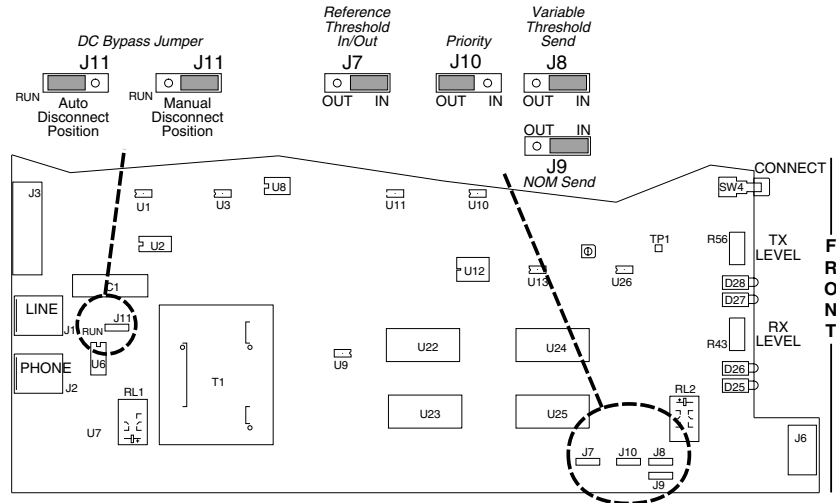

Figure 6 - TH1 Configurable Jumpers
- 1) Refer to Figure 6 for the positions of the configurable jumpers. Note that if the TH1 is being used in the standard setup, no changes from the factory configuration will be necessary.